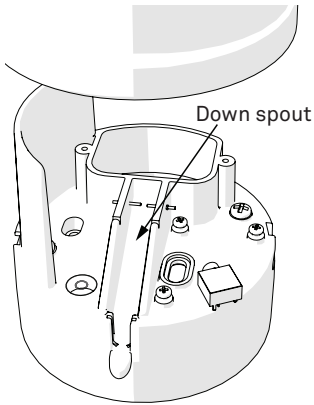

Figure 11 Down spout
4. Check the downspout (Figure 11) for debris.